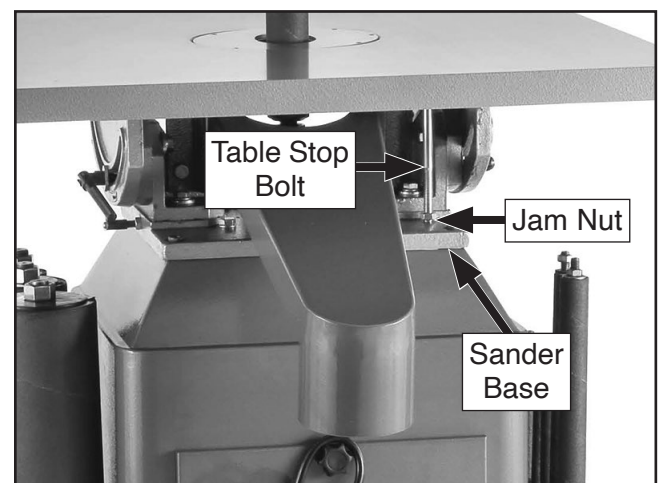

Figure 16. Table stop bolt adjusted to stop table at 0°.
7. With stop bolt head against bottom of table, tighten jam nut against sander base (see **Figure 16**).